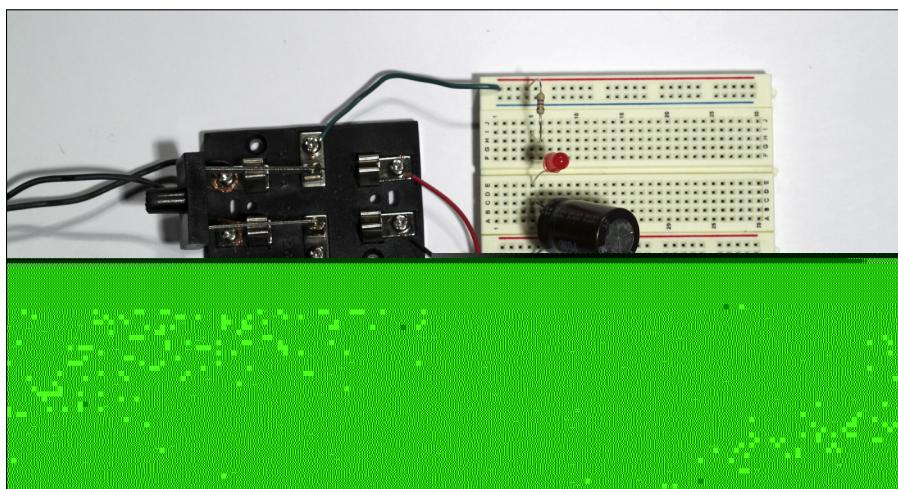

Figure 3-8:
In Project 3-2, you build a simple circuit that demonstrates this principle in action. The circuit places a resistor and a LED in series with a capacitor. Then, it uses a knife switch so that you can switch the voltage source for the current between a 9 V battery (DC) and a 9 VAC power adapter (AC). Figure 3-8 shows the finished project.